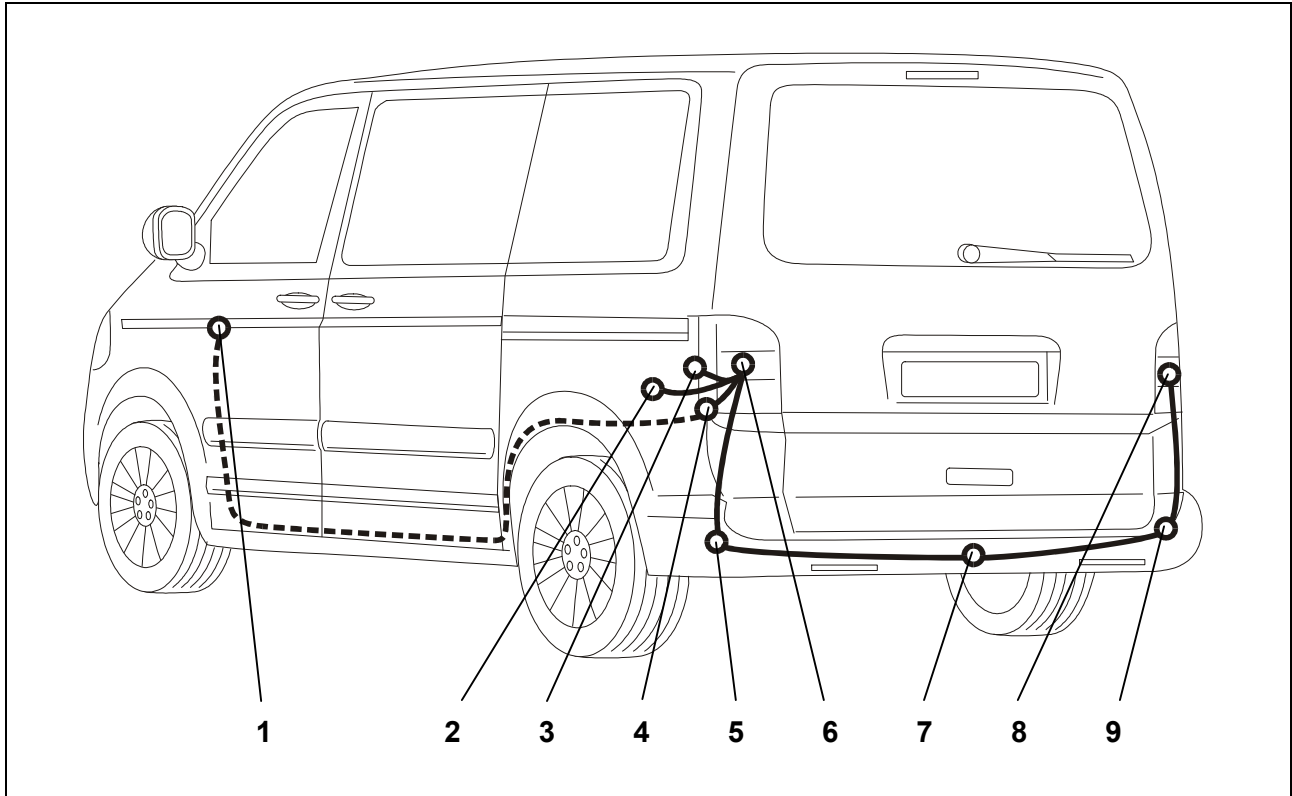

Fig. 1: Installation overview
3. Push the oval grommet to the inside near the left-hand tail light (Fig. 1/6) using the cable harness.
4. Remove the blanking plug of the cable leadthrough (Fig. 1/5).
5. Push a solid wire through the bottom cable leadthrough (Fig. 1/5) to the top cable leadthrough for the tail light (Fig. 1/6) until it comes out of the top cable leadthrough.
7. Pull the socket end of the cable harness through the cable leadthroughs to the bottom to the socket holder plate (Fig. 1/7).
12. Connect the remaining cables to the socket housing in accordance with the *Socket pin assignment plan* (Fig. 1/7) and push the rubber grommet towards the socket.
13. Screw the socket onto the holding plate (Fig. 1/7) using the supplied screws.